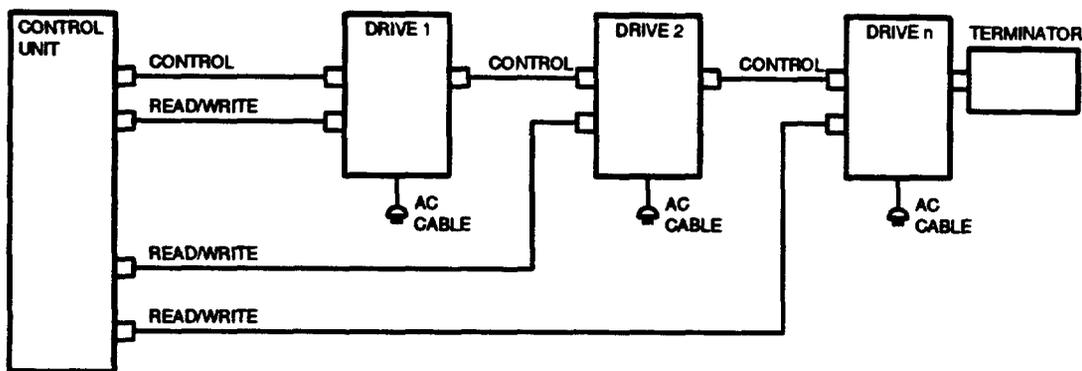

Figure 7. System Daisy-Chain Configuration
3.03 Disk drives interface with the disk file controller (DFC) by means of a control cable and a read/write cable. The control cable connects to all disk drives in a daisy-chain manner, while individual read/write cables connect the DFC to each drive. Refer to Figure 7.